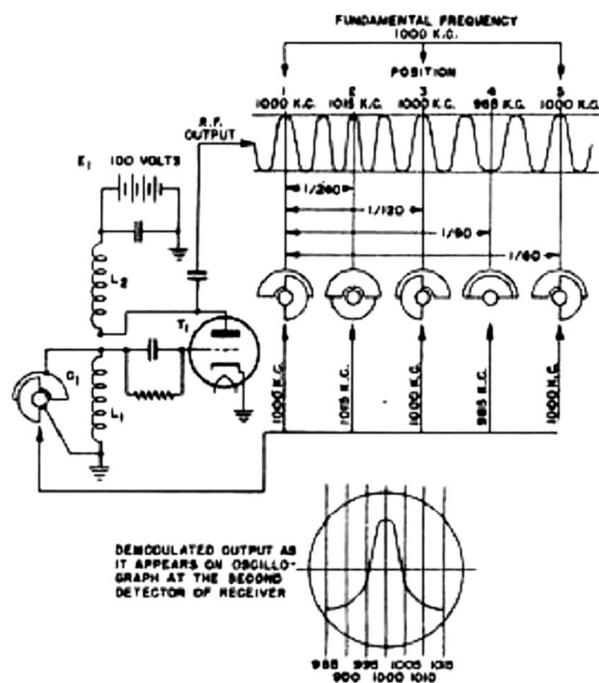

Figure 2.5 - Frequency Modulation
a. An illustration of the generation of frequency modulation is shown in Figure 2.5. The main characteristic of a frequency modulated signal is that the frequency is constantly changing while the output voltage remains constant. Starting at the fundamental frequency, the frequency gradually increases to its maximum, decreases through the fundamental to its minimum and then returns to the fundamental frequency, completing the cycle. The maximum and minimum frequencies are determined by the bandwidth of the f-m oscillator. In the illustrated case, the bandwidth is 15 kc either side of the fundamental 1000 kc. In the Universal Crystal Controlled Signal Generators the bandwidth may be either 0-30 kc, 0-150 kc or 0-450 kc. The rate at which the cycle is completed may also be variable. In these models the rate is either 60 or 400 cycles.
itor of the circuit given in Figure 2.5. The control of the band width of frequency modulation is the potentiometer R26. In the case of the narrow band f-m oscillator (1 mc), the sweep may be varied from 0-30 kc, utilizing 60 cycle modulating frequency. When using the wide band f-m oscillator (50 mc) the sweep may be varied from 0-450 kc utilizing 60 cycle modulation or 0-150 kc utilizing 400 cycle modulation. The oscillator can also be externally modulated. The remaining section of the 6SN7, V3 is used as a mixer stage to heterodyne either the 1 mc or 50 mc frequency modulated signal with the signal from the main variable oscillator, V1, 6C4, thereby resulting in a variable frequency modulated output covering a range between 100 kc to 160 mc.